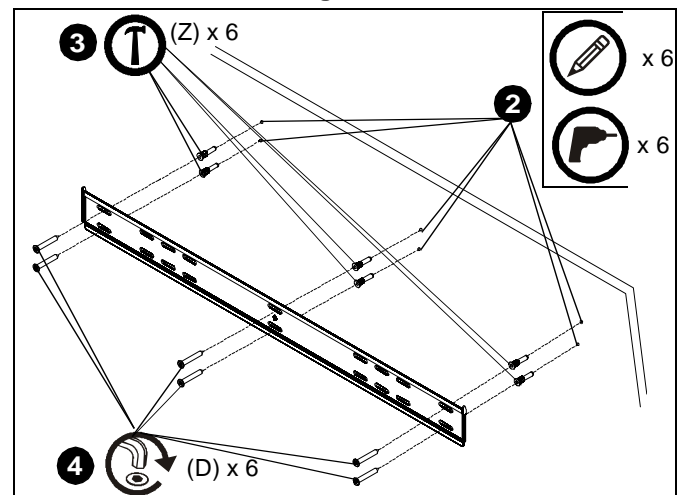

Figure 3
2. Using wall plate as a template, mark and then drill six 5/16" diameter pilot holes through mounting surface. Use level to make sure wall plate is perfectly horizontal. Holes must be drilled at least 2-1/4" deep. (See Figure 3)
3. Install six anchors (Z) into pilot holes drilled in Step 2. Use a hammer to lightly tap anchors into holes. (See Figure 3)
4. Install six connector screws (D) through wall plate holes and into anchors. (See Figure 3)